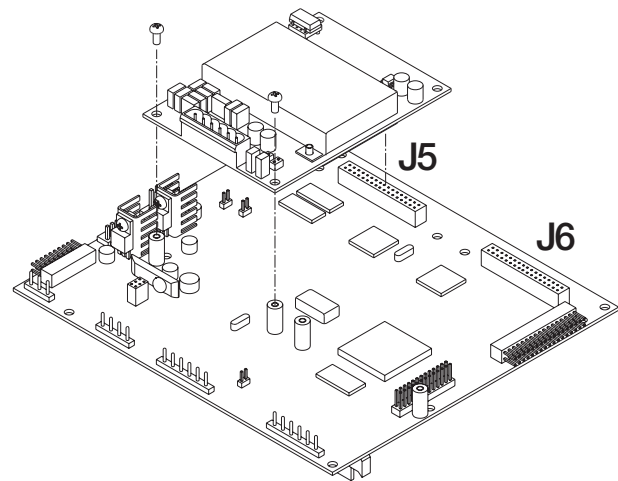

Figure 2-7. Installing Option Card Onto CPU Board
2. Carefully align the large option card connector with connector J5 or J6 on the CPU board (see Figure 2-7). Press down to seat the option card in the CPU board connector.
3. Use the screws provided in the option kit to secure the other end of the option card to the threaded standoffs on the CPU board (see Figure 2-7).